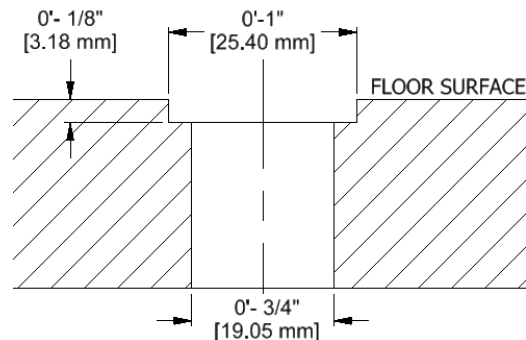

Figure 24
14. Refer the installation instructions for the rear Floor Anchor found in the package of the Floor Anchor (item 19) and install the insert into the floor. This insert is to be installed at the rear anchor location marked on the floor in step 11.
15. Using a 1" Forster or spade bit, drill a 1/8" deep counter-bore at the (2) Locator Pin locations marked on the floor in step 10. Check counter bore depth using flange of Bushing, item 18. It must be flush with floor surface. Using a 3/4" Forster or spade bit, drill through the rest of the floor (minimum of 1" deep) at the center of each of the counter-bores. See section view of finished hole in figure 24.
3. Attach the Front Lower Pad, item 40.2, to the anchor on the Front Upright, bolting the Pad Hinge Bracket, item 40.7, using 5/16-18 Hex Bolt and Locknut as shown in figure 24. Locknut should snug but be loose enough to allow brackets to pivot freely.